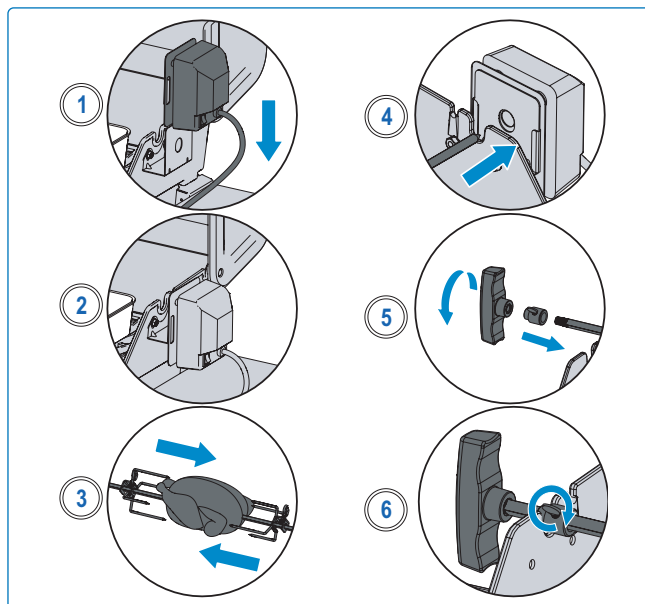

Fig. 18
5. Slide second rotisserie fork onto spit rod and push into chicken until all 3 chickens are squeezed together tightly. Tighten (**Fig 18**).